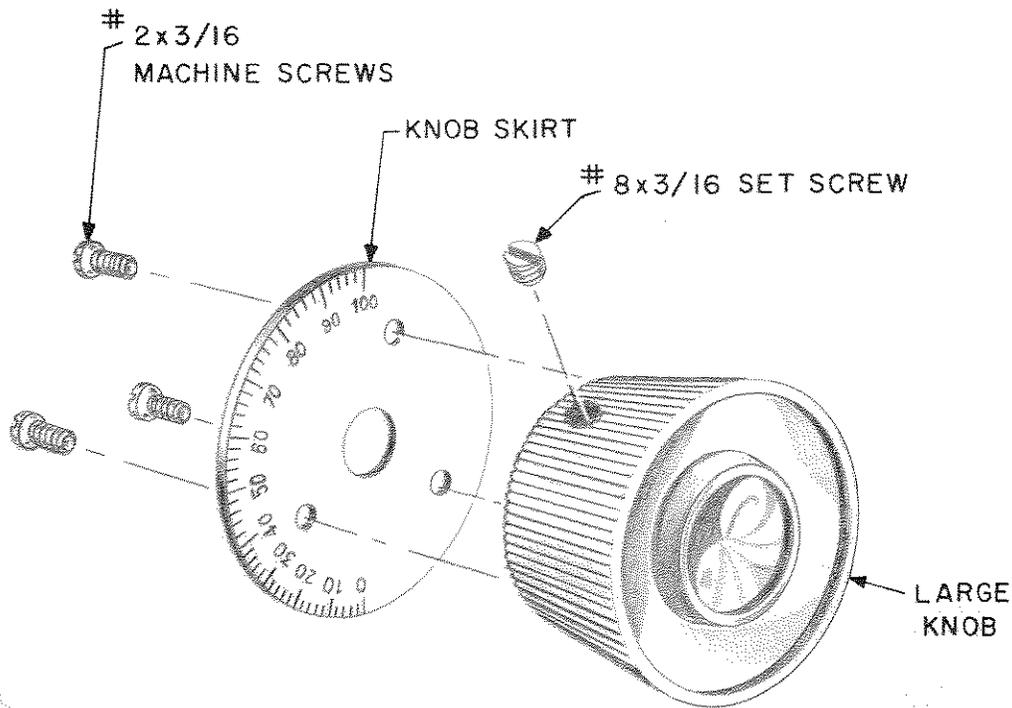

Figure 24. Assembly of Knob and Knob Skirt.
- () Locate the plate tuning and the plate loading knobs (knobs with three tapped holes on the bottom) the knob skirts, the six 3/16 inch machine screws, and the two No. 8 x 3/16 inch slot-head screws. Fasten the skirts to the knobs with the No. 2 x 3/16 inch screws, making sure that the scale graduations on the skirts are facing the knob as shown in figure 24. Thread the set screws into the body of the knobs.